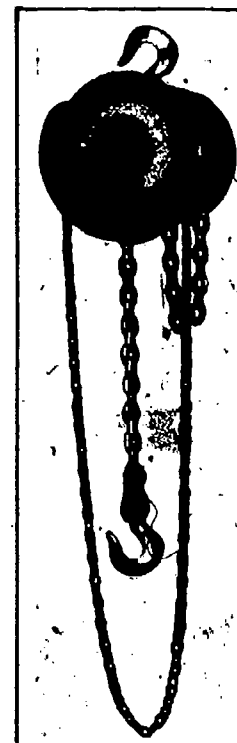

Fig 1-16. Spur gear-type chain hoist.
c. Chain hoist (fig 1-16). This is an assembly made up of gears, sprockets, a ratchet assembly, and chains. Straight spur or worm gears can be used to provide the gear ratio required to lift the load. A continuous chain turns one sprocket to operate a hoist sprocket which raises and lowers the lift chain and hook. The ratchet assembly assists the reverse action of the gears to hold the load until it can be blocked. Because the chain hoist requires some type of overhead fixture, it is seldom used outside the maintenance shops. The capacity of the assembly is determined by the capacity of the overhead structure to which it is attached, the capacity of the lift chain and hook, and the gear ratio between the operating sprocket and the lift sprocket. The lower hook of a chain hoist is usually the weakest part of the assembly. The lift chain and hook should be checked prior to each use and the complete assembly including overhead structure should be inspected yearly.